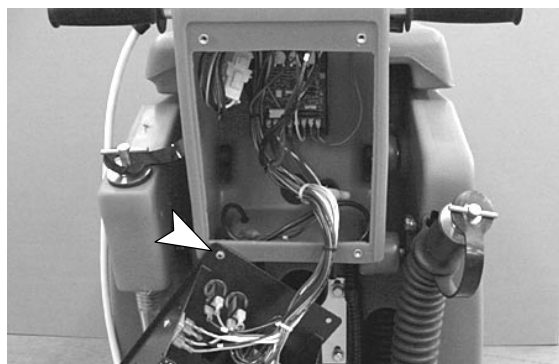

FIG. 1
2. Remove the rear console panel (4 screws). Do not disconnect the wiring from the panel. Temporarily refasten the panel to the console as shown. This will prevent weight strain on the panel wires during the kit installation (Figure 1).